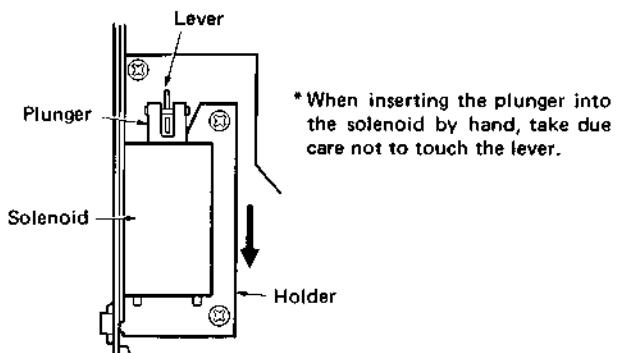

Fig. 15
- 2) After forcing the solenoid as far as it will go in the direction of the arrow in Fig. 15, secure the solenoid tightly, and check that the head base is in contact with the stopper (pinch roller shaft).